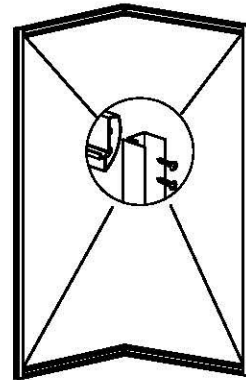
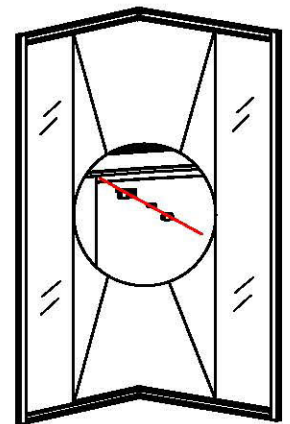

Fig.3
Fig.4
2. (Fig.3) Assemble shower frame by screwing glass aluminum profiles into top and bottom profiles. (Fig.4). Fixed glass panels can now be slid into glass profiles, and fix the fixed glass panels with supplier small plastic parts and screws.